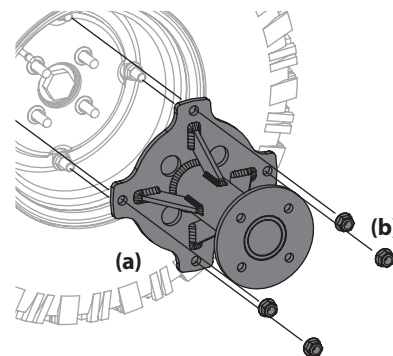

Figure 47
2. If necessary, remove the dual wheel adapter (a) by removing the four flange lock nuts (b). See Figure 47.